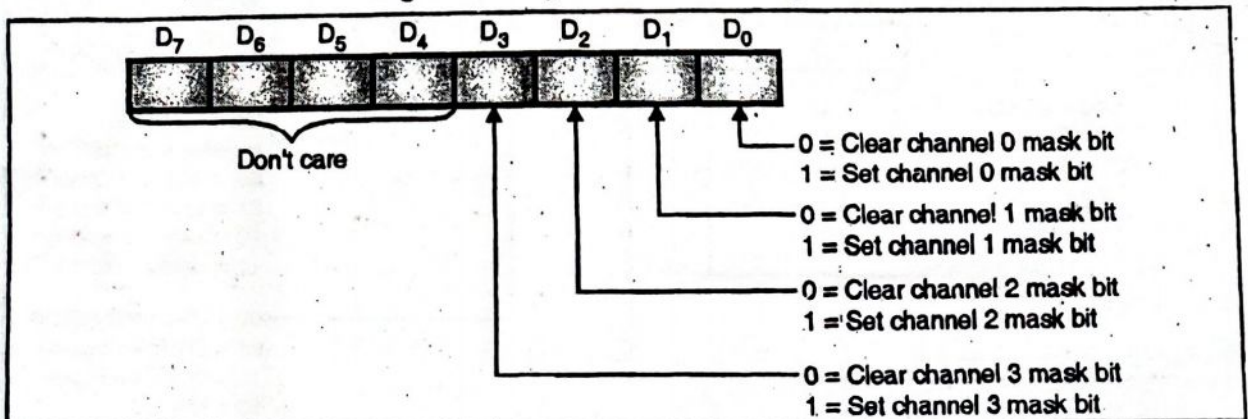

Fig. 17.5.8 : Bit written mask register
- All 4 bits of the mask register may also be written with a single command as shown in Fig. 17.5.8.